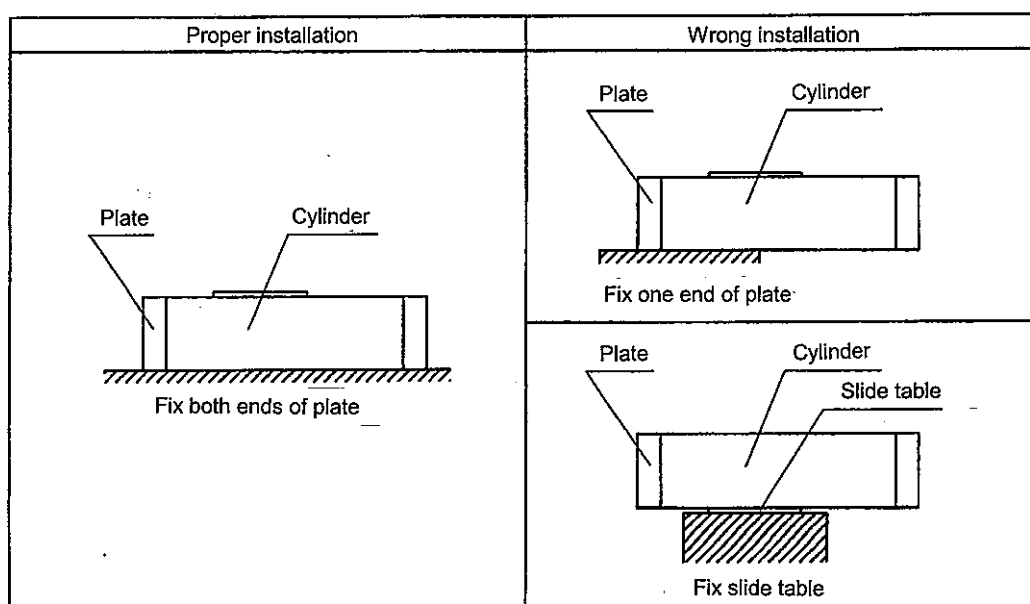

Figure 1. Example of cylinder installation
2. Be sure to fix both sides of the plates with bolts before using the cylinder (Both ends fixing). Do not use the cylinder in that state that only the slide table or one side of the plate is fixed. Excessive moment may break the cylinder. (See figure 1)